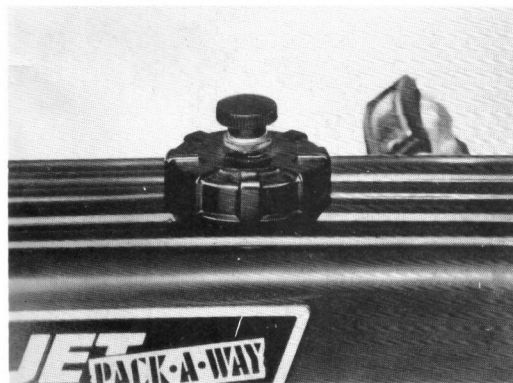

Fig. 11
- 1) Slightly unscrew the breather valve knob located on the fuel tank filler cap (fuel starvation will occur if the vent valve is closed) (**Fig. 11**)